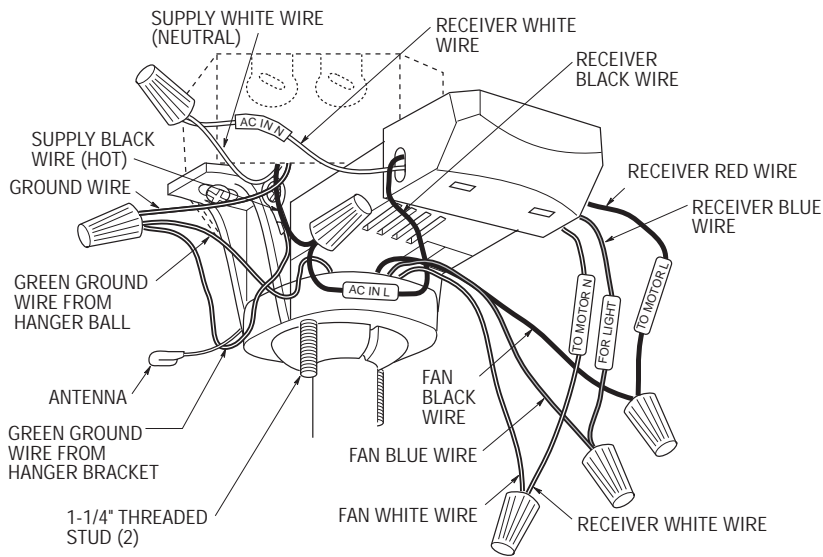

Figure 10
- 1. Position the supply wires to the left side of the outlet box (Figure 10); position the fan wires to the right side. Partially insert the remote control receiver (flat side up) until one end rests on the hanger ball as shown in Figure 10.
- 2. Refer to Figures 10 and 11 and connect the receiver wires to the supply wires and the fan motor wires as follows:
- 4. Screw the two 1-1/4" threaded studs (supplied) into the tapped holes in the hanger bracket (Figure 10).